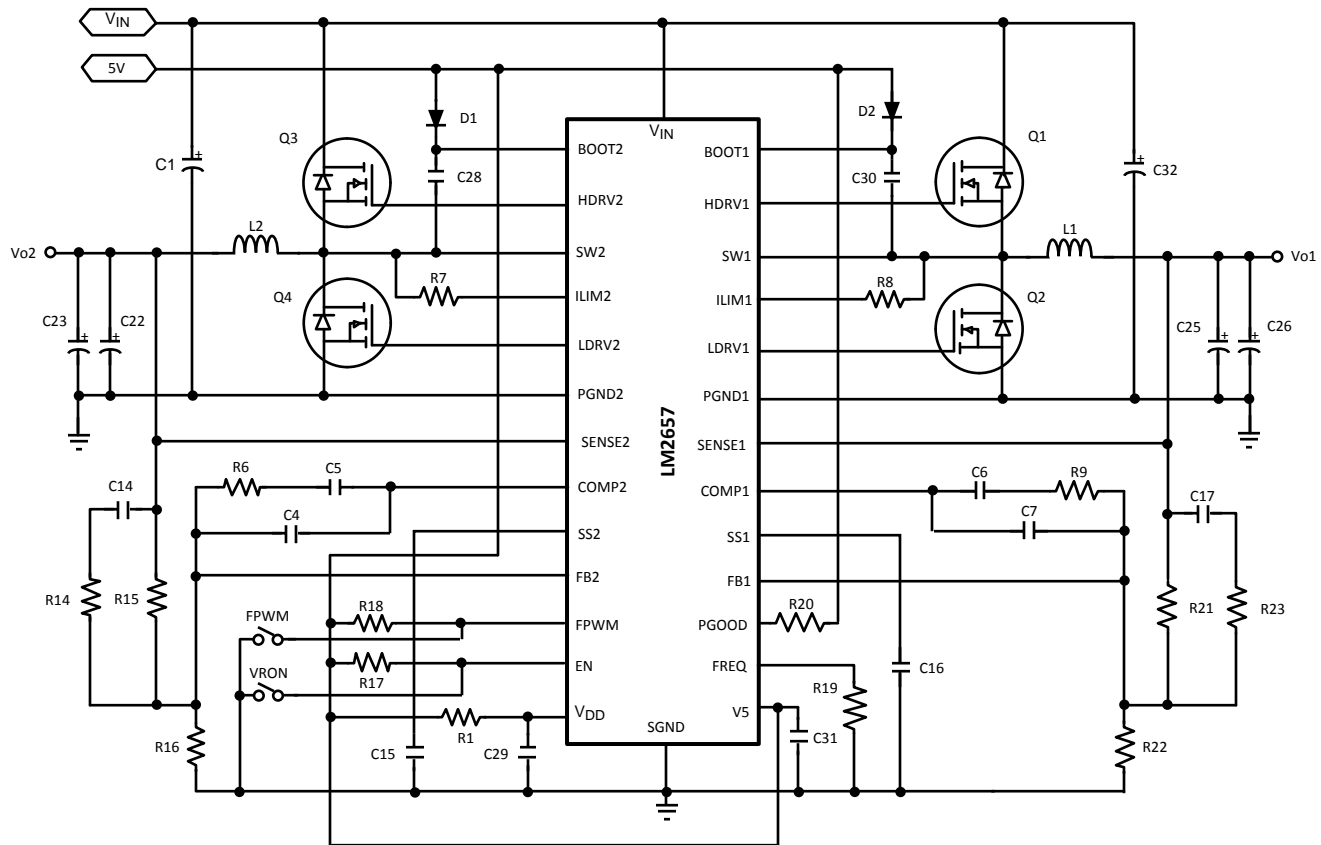

Figure 19. Typical Application (Expanded View)
**Table 1. Bill of Materials (Figure 19)
(1) In the BOMs listed above, the user has the option of using certain components in parallel. For example, in the typical apps board, C22 is a 100 $\mu$ F capacitor and C23 is optional. The user now has the option of using (2) 47 $\mu$ F capacitors. If this is done the compensation will need to be changed accordingly (C4 will be approximately half its original value.)
**Table 2. Bill of Materials (Figure 19)**